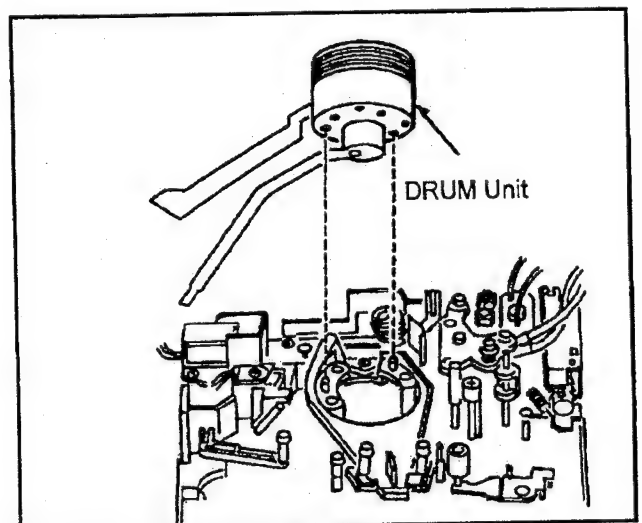

Fig. M2
2. After installing T1 Guide, T1 Guide position adjustment should be performed (Refer to item 12-1).
**Note:** When installing the Drum Unit, the pin on Mech. Chassis should match hole of Drum Unit as shown in Figure M2.